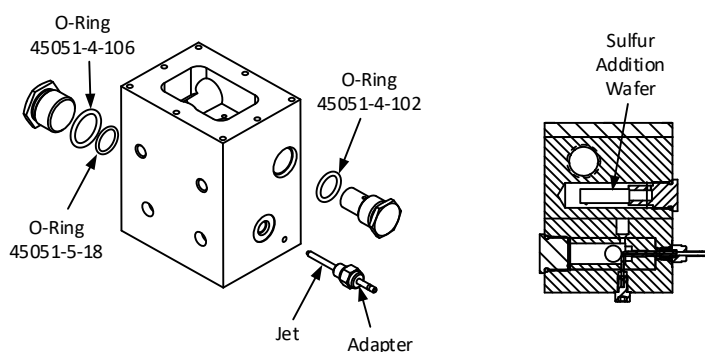

Fig. 8.13. Burner Block Components
**8.3.10 Burner block components (see Figure 8.13)**